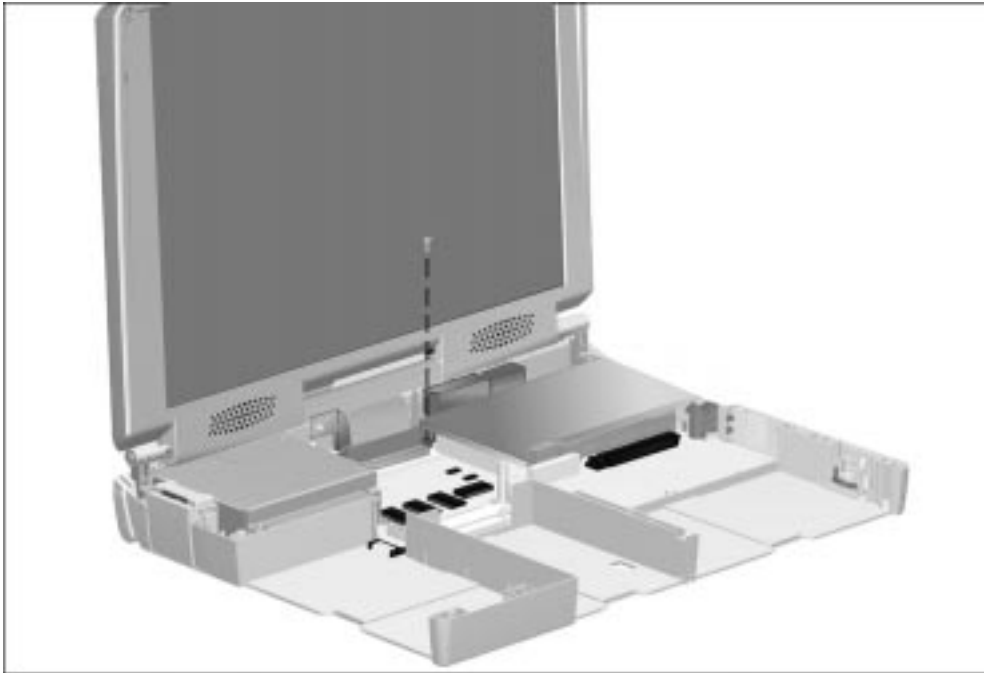

Figure 5-47. *Removing the Display Video Cable Connector Screws*
9. Remove the screw that secures the display video cable connector to the system board (Figure 5-47).